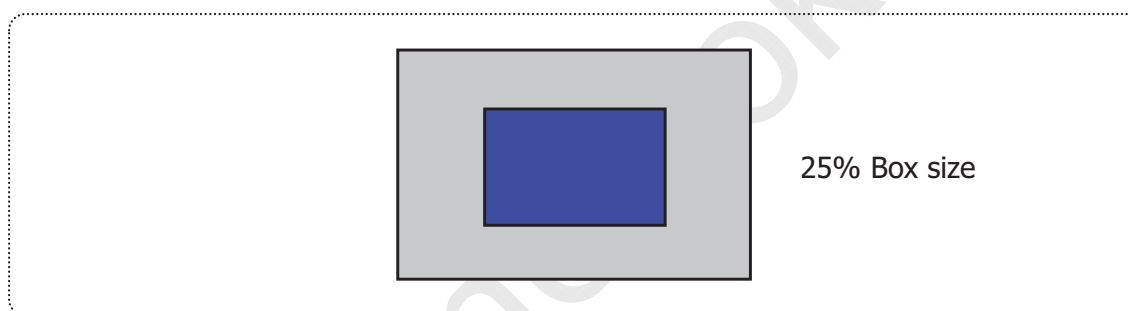

FIG.9 Color Shift Test Pattern
5. Color shift is the angle at which the average color difference for all Macbeth is lower than 0.02. For more information see FIG.9 **(By EZ Contrast)**